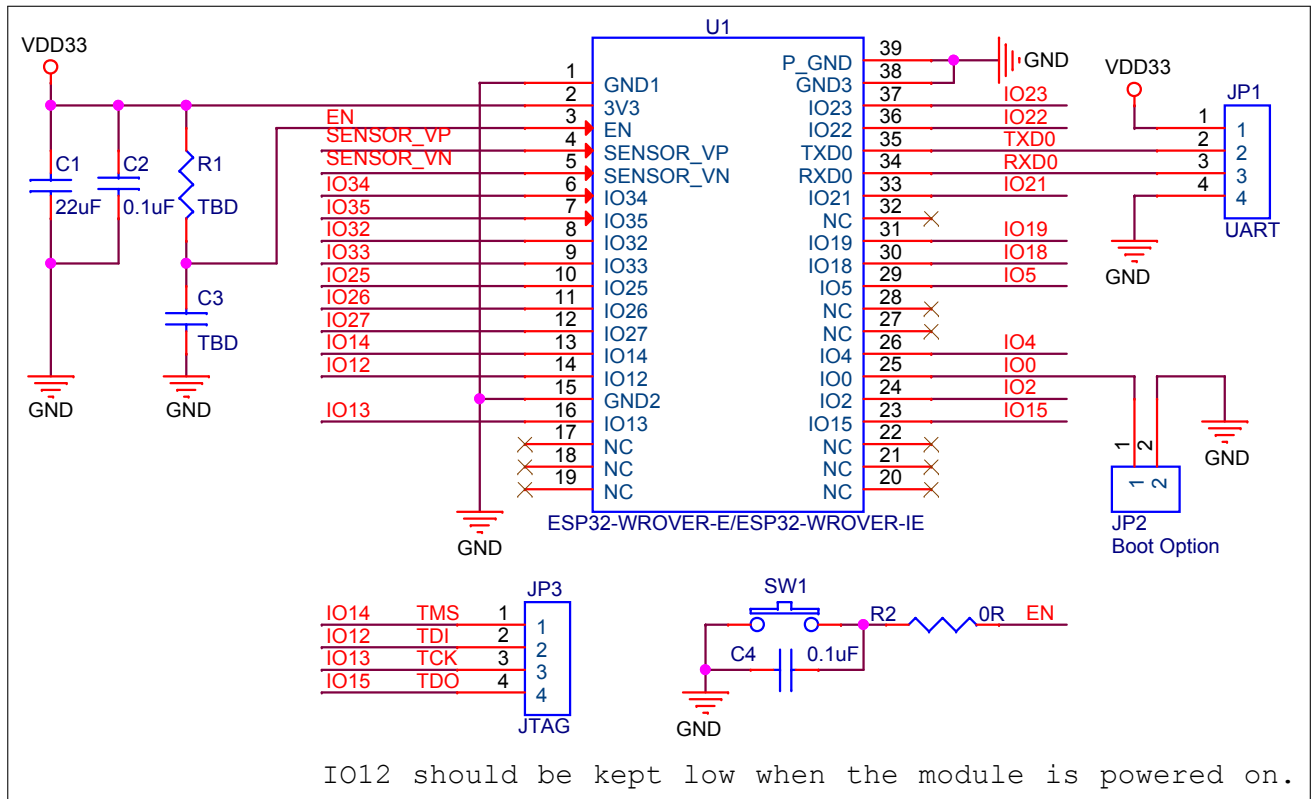
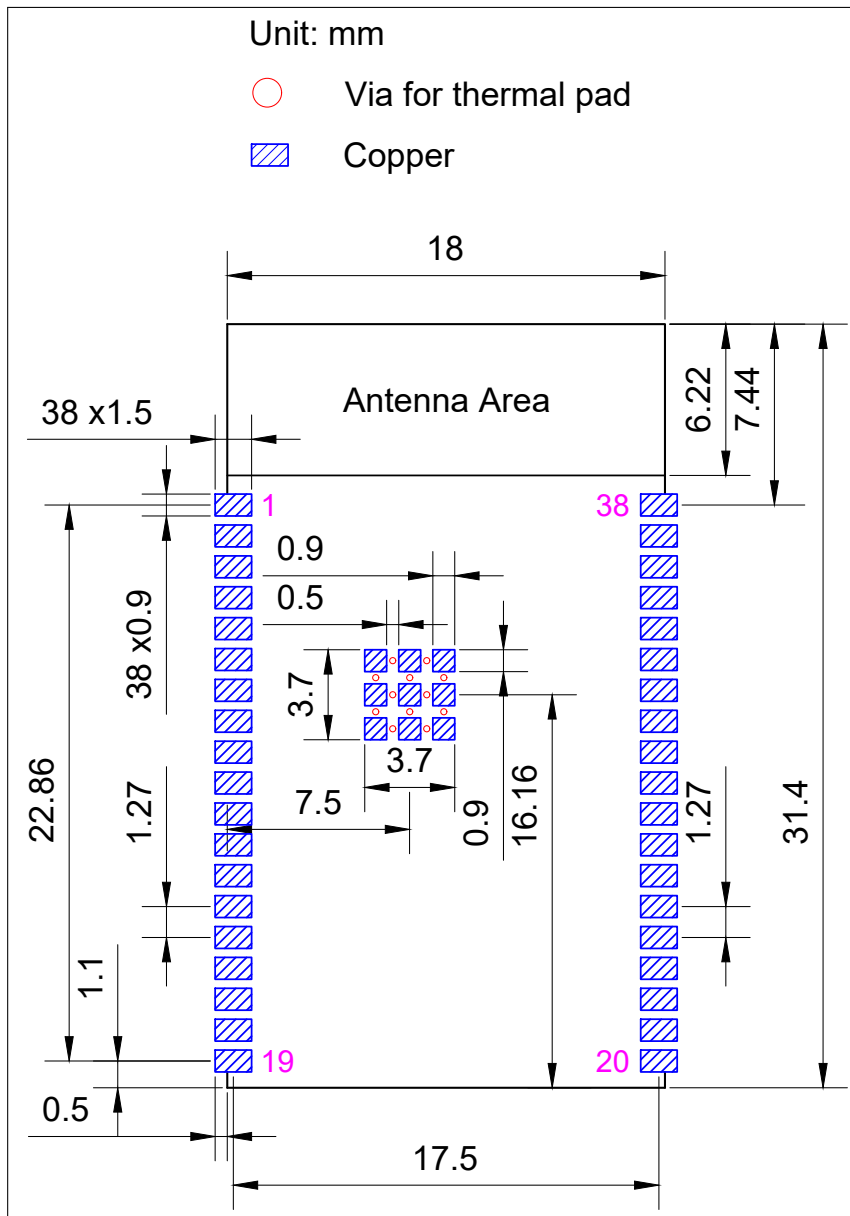

Figure 9: Peripheral Schematics
Figure 12: Recommended PCB Land Pattern
- Source files of recommended PCB land patterns to measure dimensions not covered in Figure 12. You can view the source files for ESP32-WROVER-E and ESP32-WROVER-IE with Autodesk Viewer.
| 2023-11-21 | v1.9 | <ul style="list-style-type: none"> • Table 1: Added information about flash • Figure 9 Peripheral Schematics: Updated the note about soldering • Section 11 Dimensions of External Antenna Connector: Added information about the antenna external connector |
| 2021-02-09 | V1.4 | <p>Updated Figure 9: Physical Dimensions</p> <p>Updated Figure 12: Recommended PCB Land Pattern</p> |